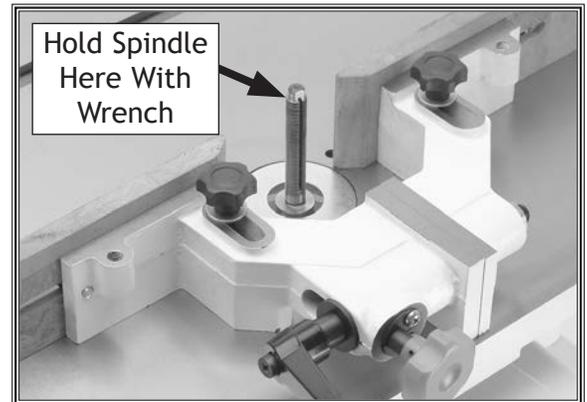

Figure 55. Location for wrench on spindle.
7. Tighten taper nut by holding another wrench on spindle flats, as shown in **Figure 55**.